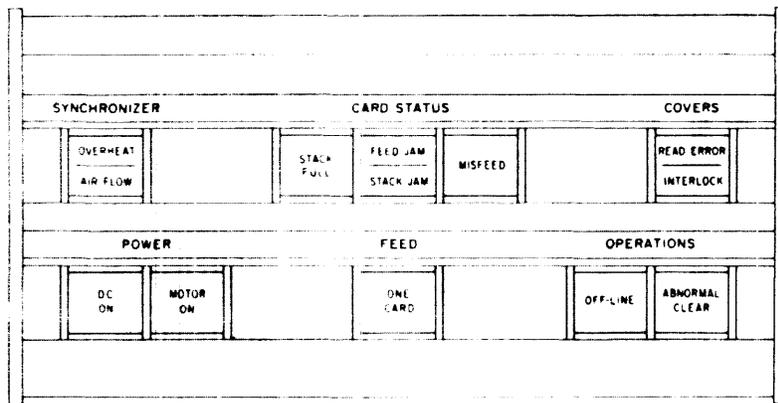

Figure 6-3. Card-Reader Control Panel
The control circuits (1) enable the system, through the synchronizer, to control card feeding and stacker selection, (2) stop the reader if any abnormal condition occurs, and (3) provide for limited control from the reader control panel. Table 6-1 lists and describes the controls and indicators on the reader control panel. Figure 6-3 shows the control panel.